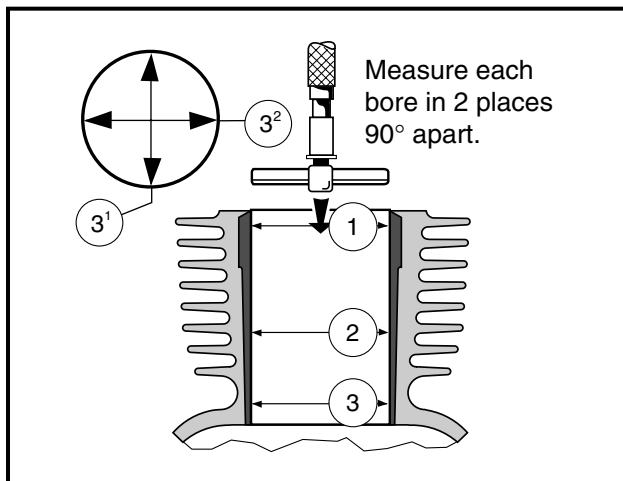

Figure 3-52 Measure Cylinder Bore
2. Make the first measurement parallel with the crankshaft and the second at right angles to the crankshaft at three different locations in the bore. The first measurement location is 0.4 inch (10 mm) from the top of the cylinder. The second location is in the center or 2.4 inches (60 mm) from the top, and the third location is 0.3 inch (8 mm) from the bottom of the cylinder or bottom of ring travel. (**See locations 1, 2, and 3 in Figure 3-52, Page 3-27.**)